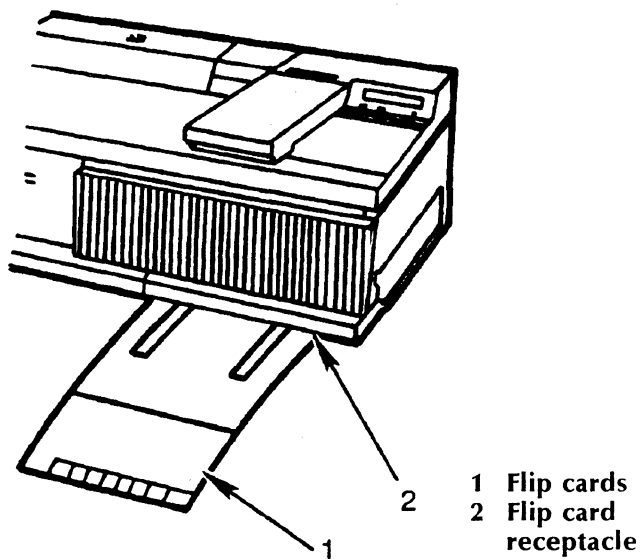

Figure 2-5 Flip card receptacle
1. Hold the flip cards face up and insert the black plastic strip into the flip card receptacle (see Figure 2-5).